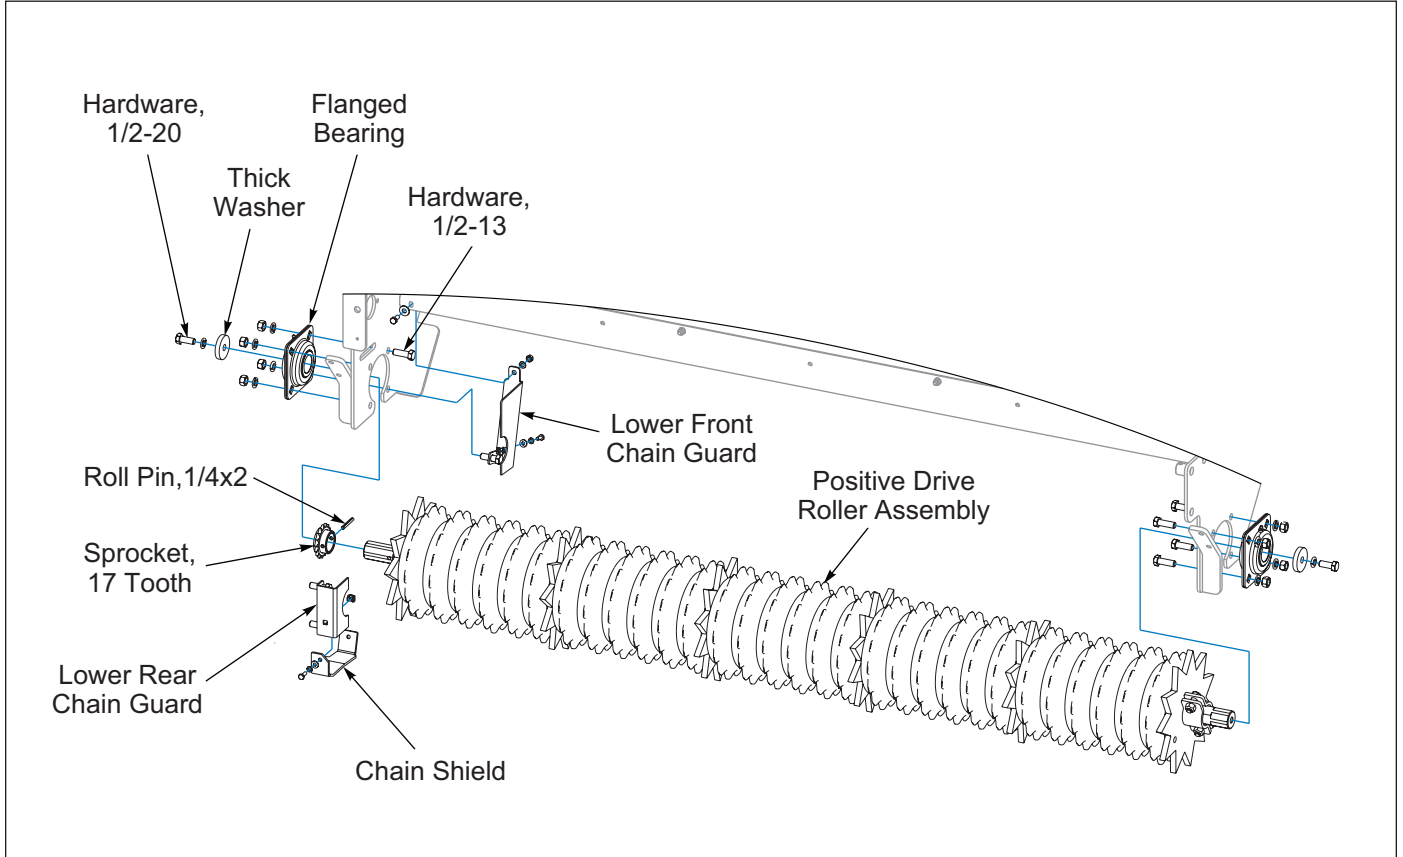

Figure 2-11: Positive Drive Roller Assembly
9. Remove the 17 Tooth Sprocket from the Firming Roller Assembly and install it onto the Positive Drive Roller Assembly in the same position. Secure with 1/4 x 2 Roll Pin. **See Figure 2-11.**